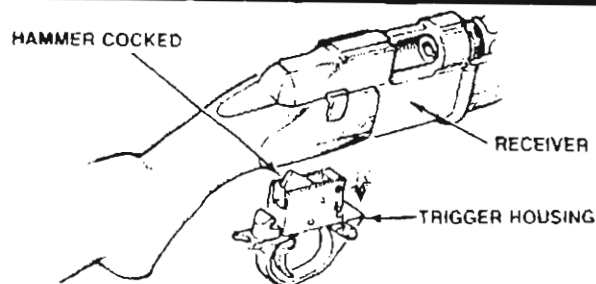

FIG. 8
- To install the trigger housing the hammer must be cocked first (see Fig. 8) and make certain that the safety is "ON". To cock the hammer simply push down on the hammer with your thumb until it locks into the cocked position.